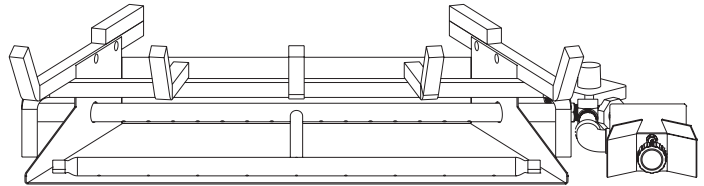

Figure 4A - Burner Pan with Manual Gas Control Valve
1. Place the Burner Pan into the fireplace. The unit should be centered from both side to side and front to back in the fireplace. The unit is shipped ready for right side gas connection only. See Figures 4A and 4B.